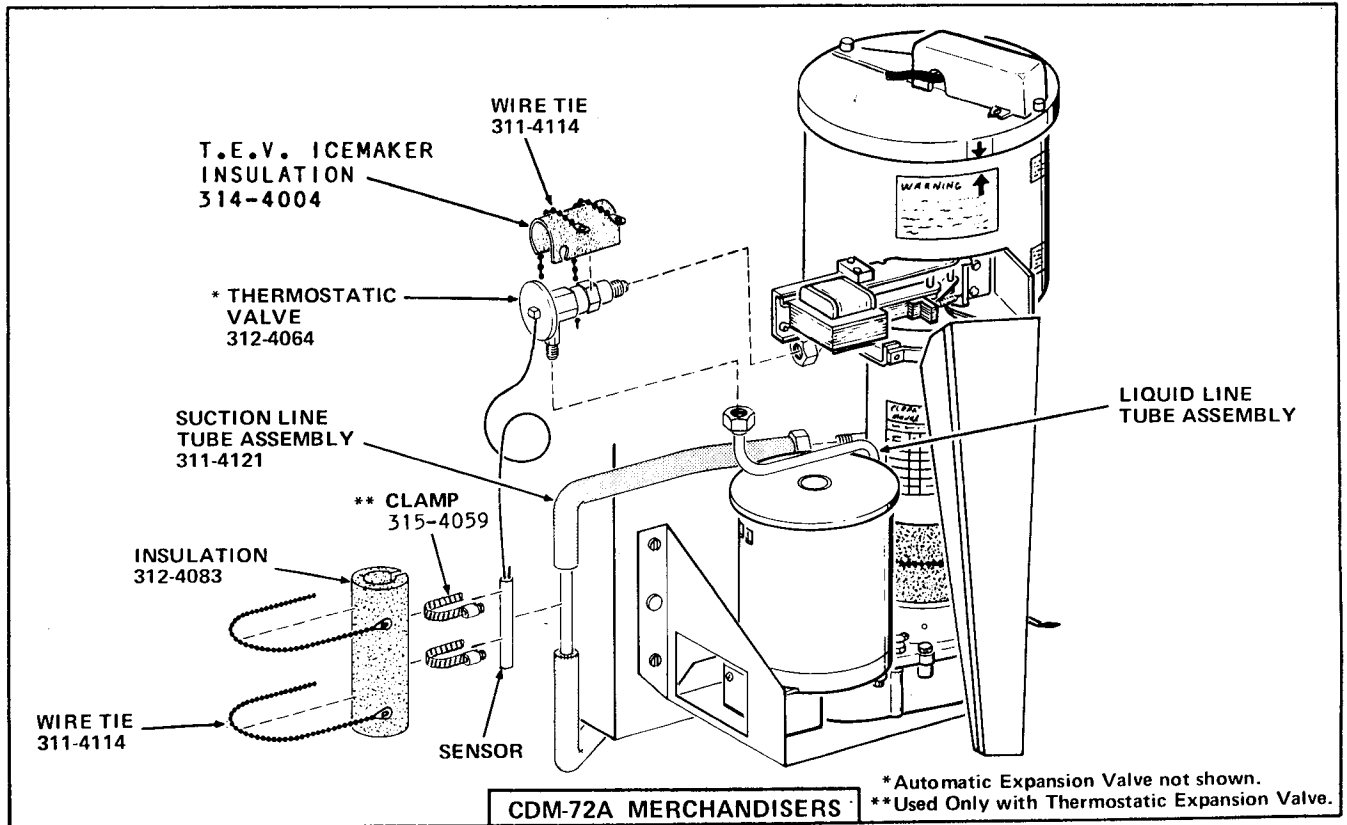

FIGURE IV-3
- K. Install the replacement Icemaker Suction Line Tube Assembly, Part Number 310-8338 (CDM-72 Merchandisers) or Part Number 311-4121 (CDM-72A Merchandisers) included in the Kit, in the Merchandiser by connecting one end of the Icemaker Suction Line Tube Assembly to the Solenoid Valve and the other end to the Icemaker Assembly. See Figure IV-3 for CDM-72A